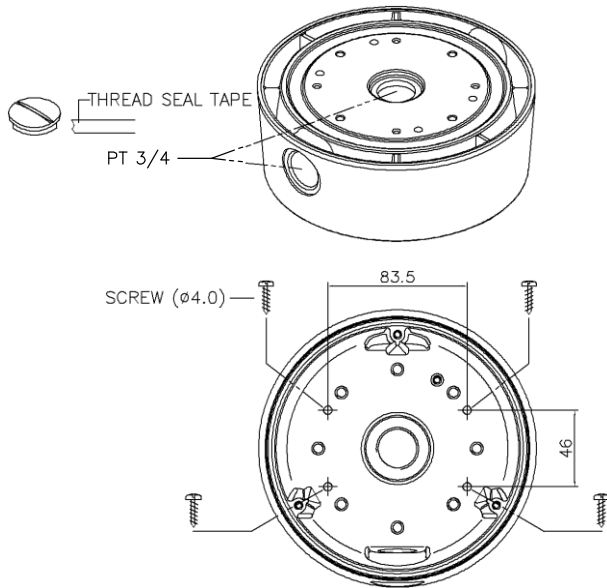

FIG. 3
1. Fix the surface mount adaptor with 4pcs of screws on the place where you want to install. (FIG. 3)